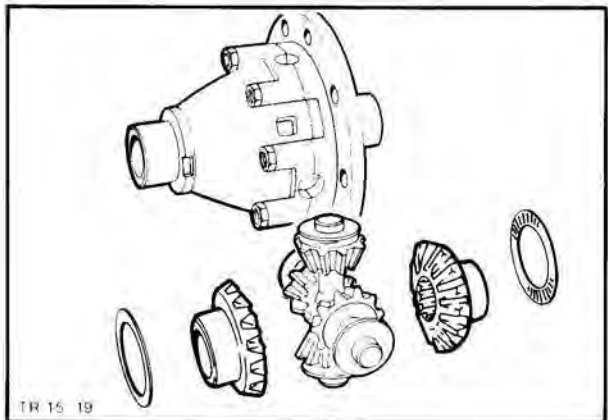

Fig. 29. Remove differential gears with differential cross and side gears
10. Install differential gears and side gears in differential housing, inserting side gears with shims and differential gears with thrust washers and differential cross in housing halves in reverse order, Fig. 29.